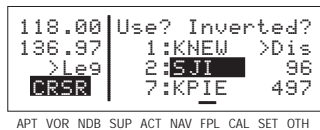

Figure 4-108
- With the outer knob, position the cursor over the waypoint identifier which you desire to follow the waypoint being added. Another way to think of this is to position the cursor over the location in the flight plan you wish the new waypoint to be added. For example, if **SJI** is presently the second waypoint in the flight plan and you wish to insert **GPT** in the number 2 position in front of **SJI**, move the cursor over **SJI** (figure 4-108).